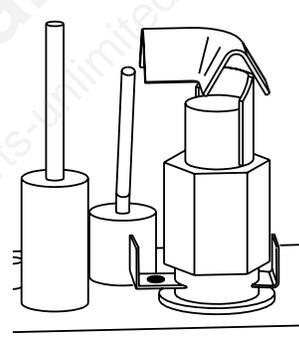

Figure 29. Integrated dual-fuel pilot orifice- LP position shown.
- b) **Use the 7/16" wrench to just loosen the pilot head enough to push in the adjustment slide. See fig. 29.**